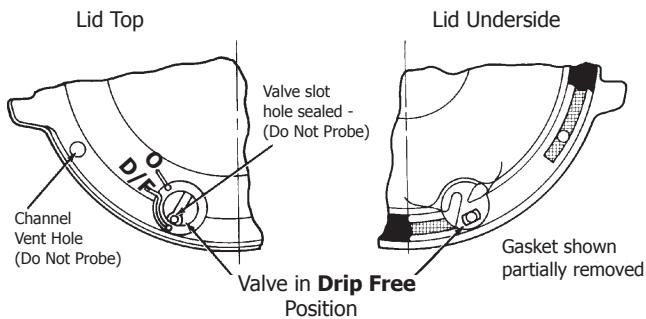

Figure 3 - Drip Free Model
**Drip Free Mode "D/F"** - To operate in the drip free mode, rotate the valve with a screwdriver or coin so that the hole in the valve slot is aligned with the "D/F" on the lid. See Fig. 3